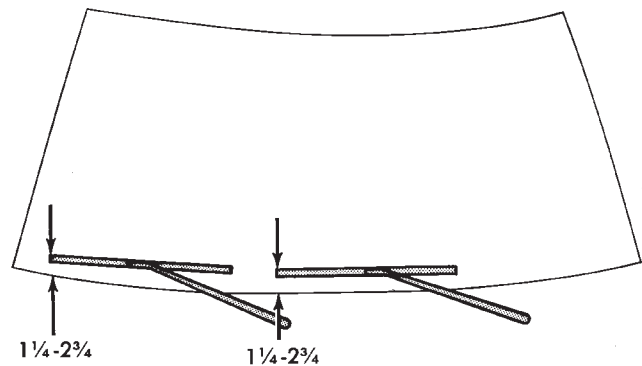

Fig. 7 Front Wiper Arm Installation
(4) Install the arm and blade with the wiper motor in the Park position. See the Front Wiper Arm Installation illustration (Fig. 7).